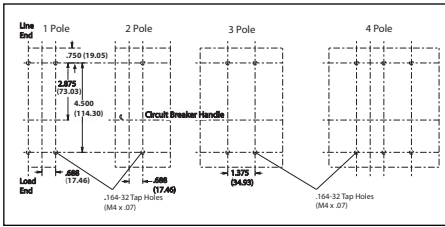
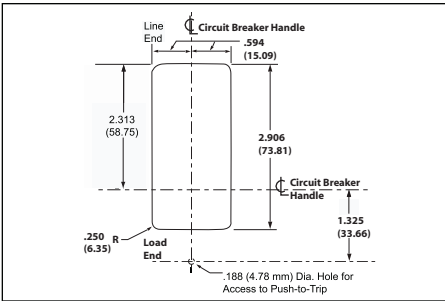

Figure 2. Circuit Breaker Mounting Bolt Drilling Plans
Figure 3. Circuit Breaker Escutcheon Dimensions
- a. For individual mounting panels, make sure that mounting panel is predrilled using bolt drilling plan (Fig. 2). For panelboard mounting, only load end support mounting holes are required. For deadfront cover applications make sure panel cover is cut out to correct escutcheon dimensions (Fig.3).